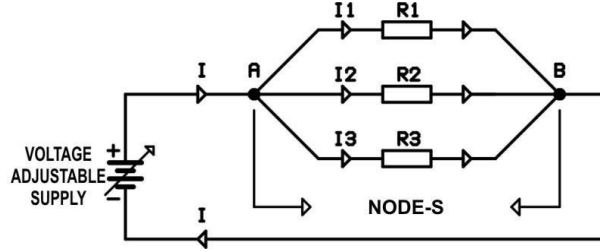

Figure 30: Basic electric circuit whose resistors are connected parallelly.
In Figure 30, circuit load consists of three parallelly connected resistors. In the circuit, the total current flowing into a node must be the same as the total current flowing out of the node. So, at node A;
Let's calculate the total resistance of parallel resistors from this equation. It is observable on Figure 30 that there is circuit voltage (E) on every resistor. If we calculate the current passing through every resistor;
Example: In the circuit at Figure 30, $R_1 = 6R$, $R_2 = 12R$, $R_3 = 4R$. If $E = 12V$ applied to the circuit;